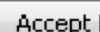

Figure 53 - Manual Low Stop Limits Results: Succeeded
- Click **Confirm**, the *Find Stops Log* lists detected values, test results appears (Figure 53) and if the test fails a list of reasons.